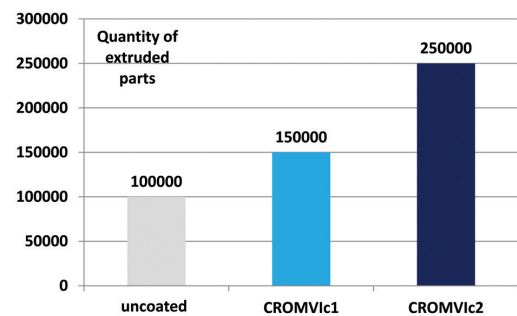

Figure 5: Extrusion with DLC Coatings of the 1st and 2nd Generation
- **Figure 4** and **Figure 5** present performance comparisons for non-cutting forming tools coated with 1st and 2nd generation coatings.